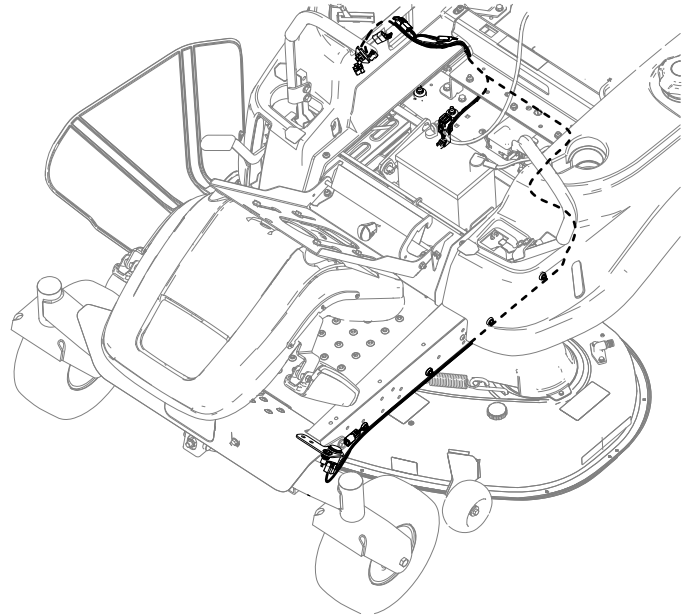

Figure 13
- Route the wire harness under the crossmember, under the fuel tank, and along the left frame rail to the bracket (Figure 13). Use the magnets to secure the wire harness to the machine, away from moving parts.